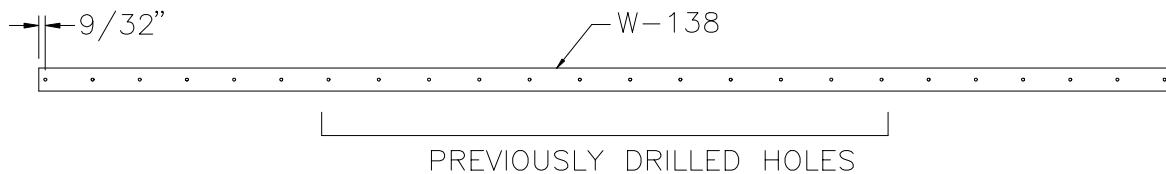

Figure 8.1.3
- 6) Drill #30 holes 9/32" from each end of W-138. Figure 8.1.3.
- 7) Drill five equally spaced holes in the remaining undrilled portion of each end of W-138. Figure 8.1.3.